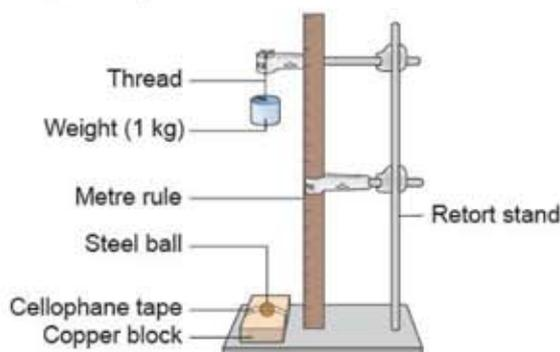

Figure 9.3 Setup of apparatus
1. Prepare the apparatus as shown in Figure 9.3.